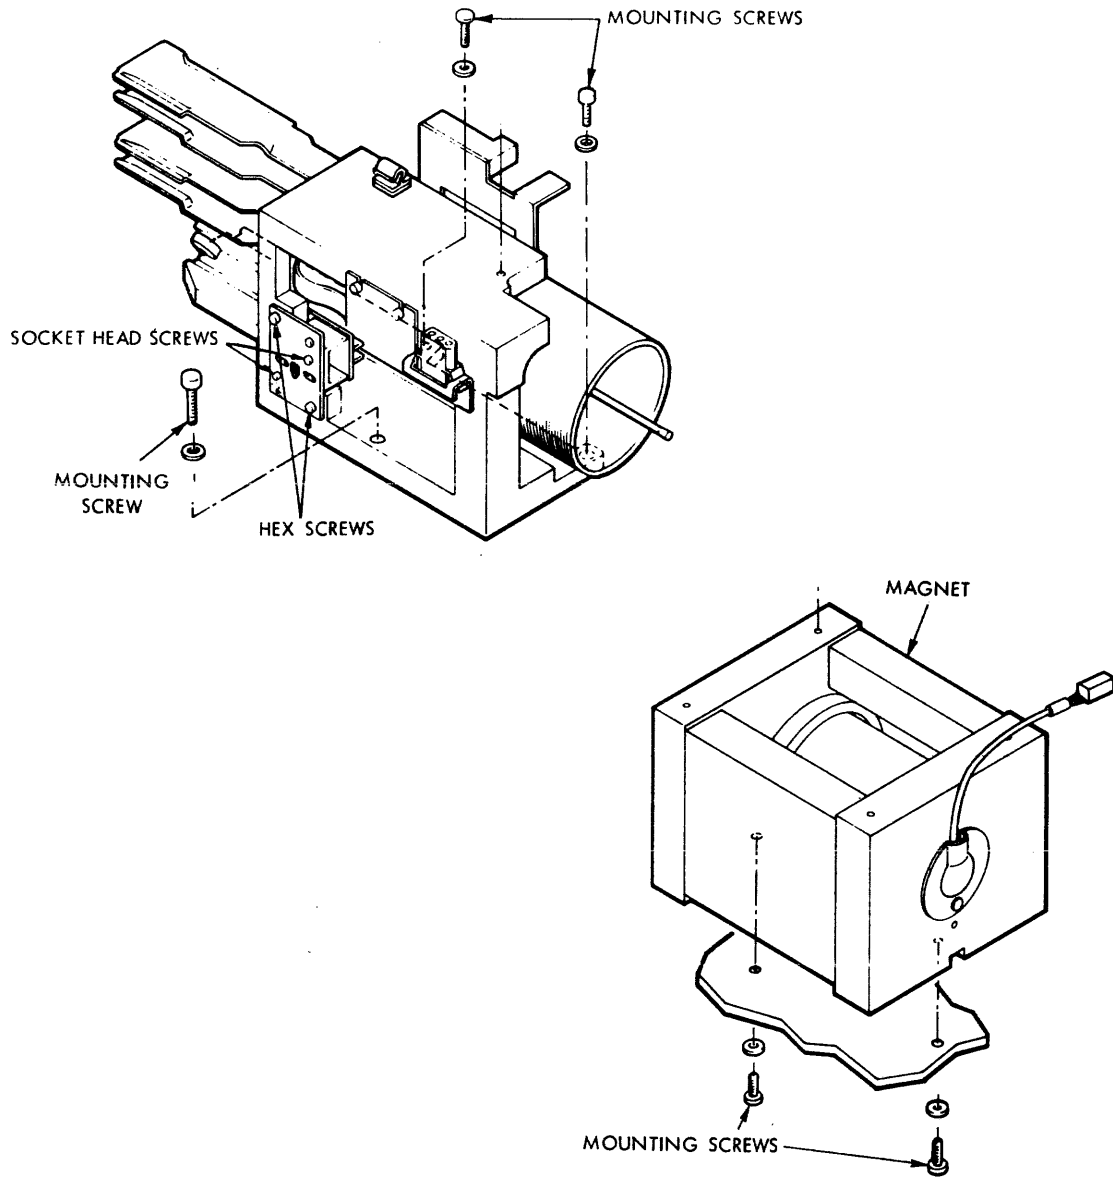

Figure 3-6. Actuator, Magnet and EOT Sensor Mounting
13. Remove two screws that fasten the magnet to the main deck. Screws are located underneath the base casting, one screw in back of magnet and one in front (see figure 3-6).
19. Using 9/64 ball allen driver, remove the three mounting bolts from the actuator frame securing the actuator to the deck (see figure 3-6).
2. Using 9/64 ball allen drive, install the three mounting bolts securing the actuator to the drive (see figure 3-6).
7. Fasten magnet to the main deck with the two mounting screws (see figure 3-6).
7. On EOT assembly bracket, remove top and bottom mounting hex screws (see figure 3-6).